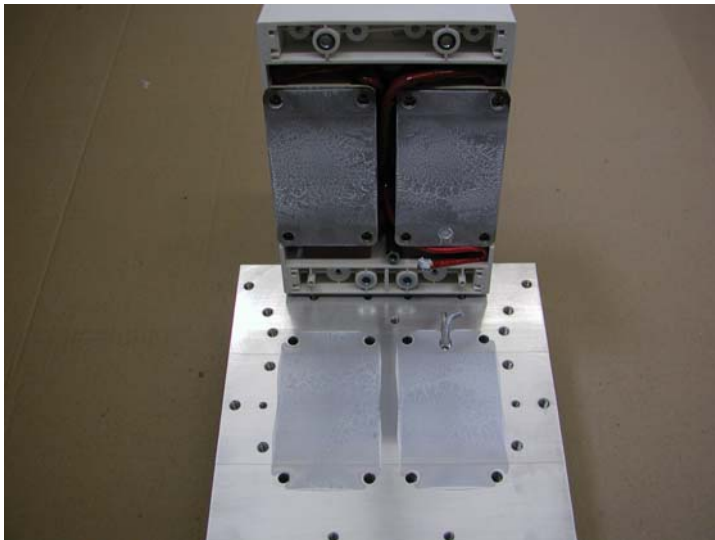

Figure 9
- If you are mounting converters the first time as described, you should demount the converter after 10 minutes and compare the print image with the print image below. (fig.9,10,11)